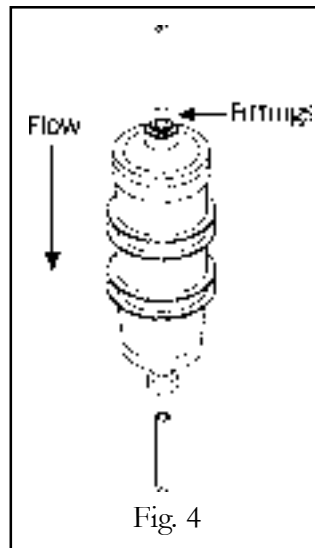

Fig. 4
3. Remove the polishing filter (Fig. 4) and discard. Connect the tubing ends together with the tubing connector.
4. Remove the temporary tubing connector and replace it with a new polishing filter. Make sure the flow arrow on the polishing filter points to the faucet (Fig. 4).